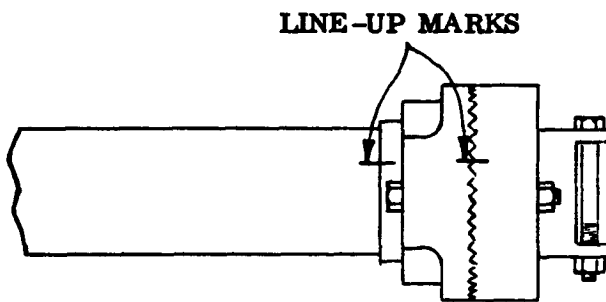

FIG. 3: MARK ADJUSTABLE COUPLING
1. Mark the position of the Adjustable Couplings so the torsion bars can be set at the same tension upon reassembly. (See Fig. 3).